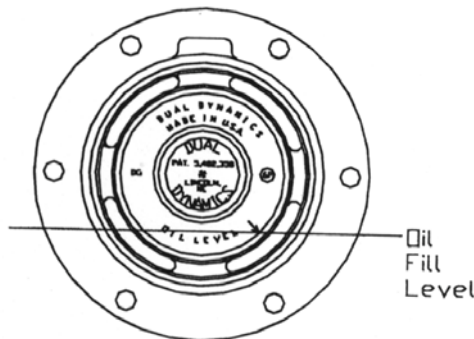

Figure 6 - Wheel Bearing Oil Level
1. Rotate hub such that hubcap fill hole is oriented at 12 o'clock position. See Figure 6.
2. Hubcap fill hole must be oriented in 12 o'clock position. See Figure 6.